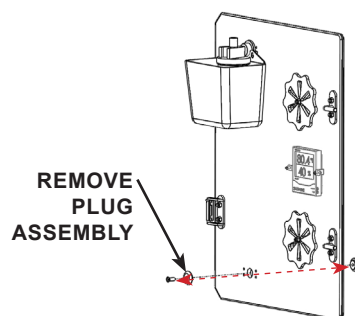

FIGURE 3.4 - O2 Analyzer Plug Removal
**STEP 1:** Install the O2 Analyzer by removing the plug assembly with a Phillips head screwdriver. Clean and store the plug for replacement into the door when the analyzer is not used. See FIGURE 3.4